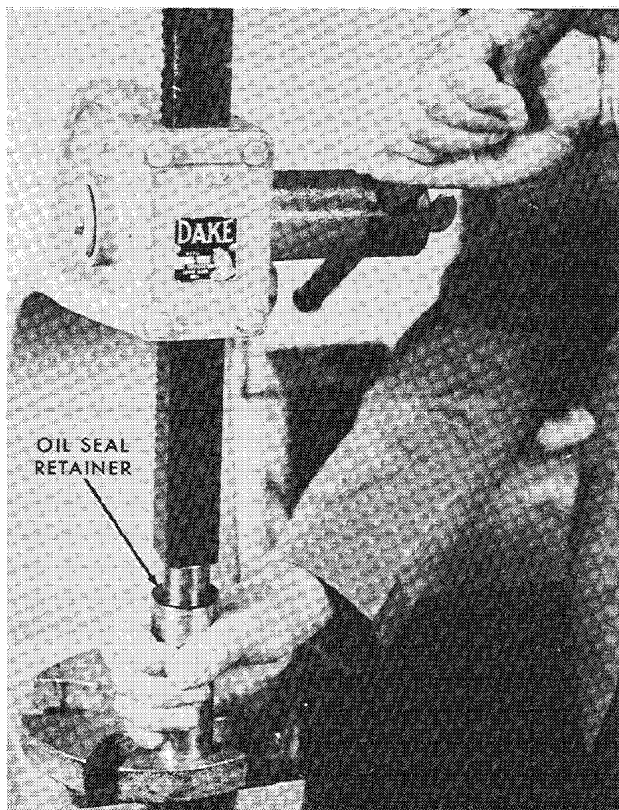

Figure 3-3
5. Remove screws (58) and retainer (57). Take out drive shaft (56) and items (51) through (55). Remove drive shaft oil seal (52) as shown in Figure 3-3.